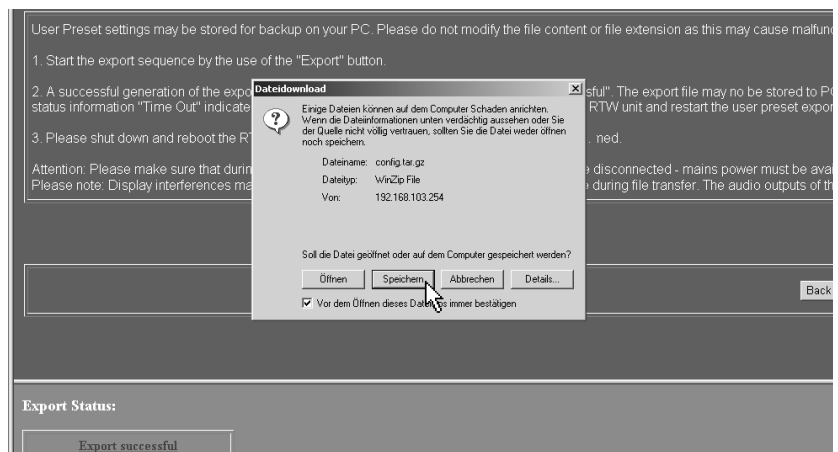

Fig. 8-14: The file download dialog
6. The file download dialog box appears (see Fig. 8-14). Please click **Save** (“Speichern”).